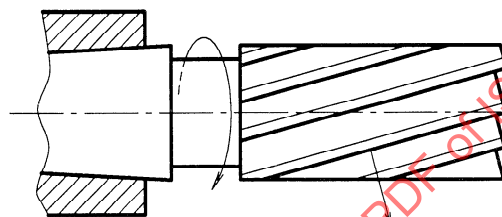

Figure 36 — Machine-fitted right-hand tool, left-hand helix
Add the following clause 8 and figures 36 to 41 to ISO 3002-1.
8 Direction of the helix and cutting direction (see figures 36 to 41)
Figures 36 to 41 provide examples of the direction of the helix and the cutting direction. The arrow perpendicular to the flutes indicates the cutting direction.
8.1 Direction of the helix (figures 36, 37, 38 and 41)
If tools can be fitted only in one direction, the drive side is defined without ambiguity (see figure 36).